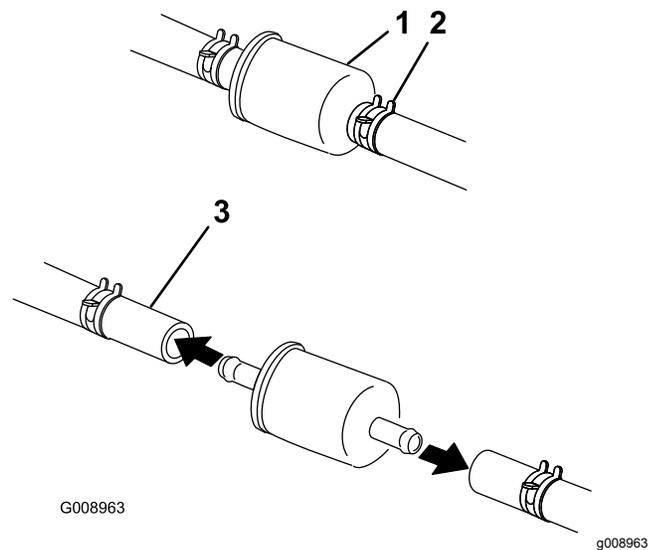

Figure 64
4. Close the fuel-shutoff valve under the seat (Figure 64).
5. Squeeze the ends of the hose clamps together and slide them away from the filter (Figure 64).
7. Install a new filter and move the hose clamps close to the filter (Figure 64).